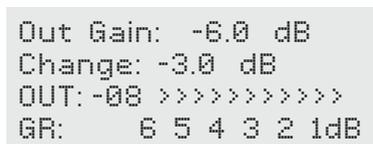

Figure 16. Turning the encoder in Overview screen allows to change output gain.
- **Turn left or right** to adjust the output level (Figure 16). The output gain and the relative change in dB are shown. The output level is always recalled and is not affected by any reset function.